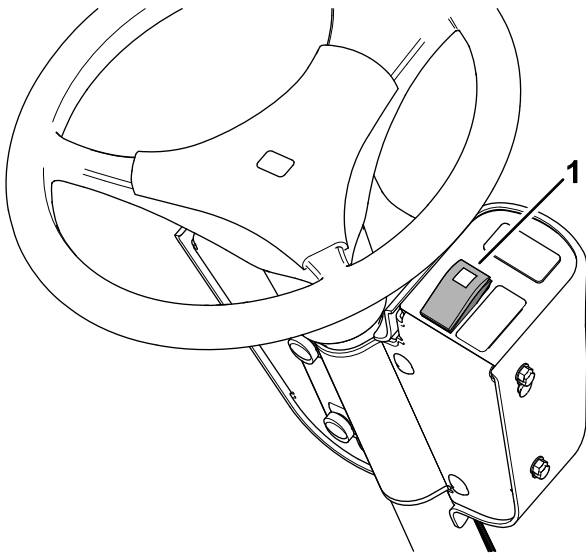

Figure 65
- Press the top of the switch (Figure 65) to run the hazard lights..